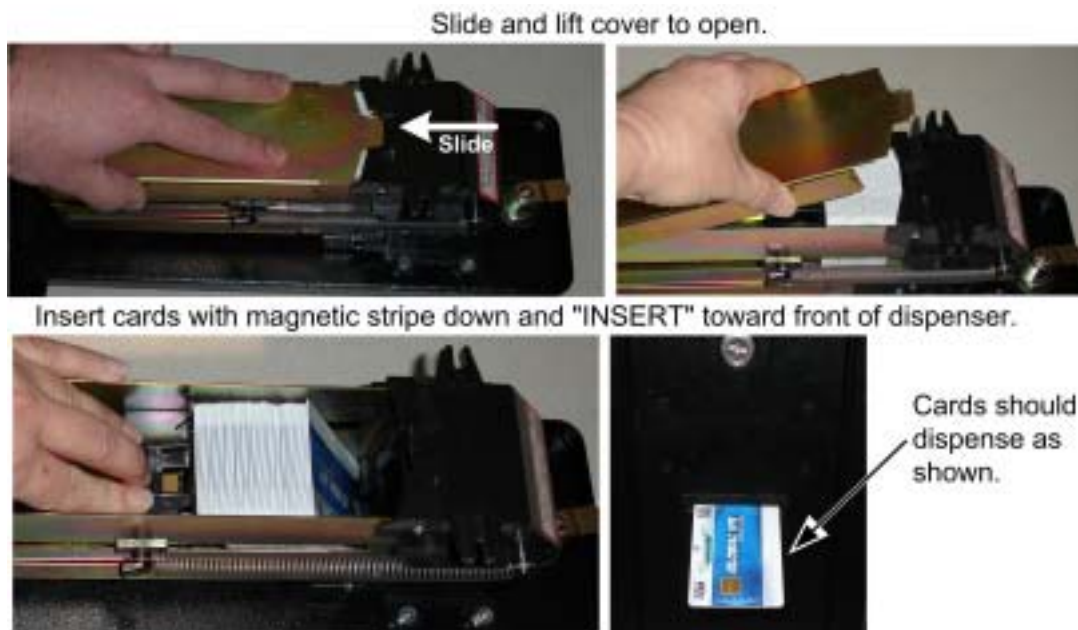

Figure 45. Filling the SmartCard Dispenser
2. Slide and lift the back panel as shown in Figure 45.